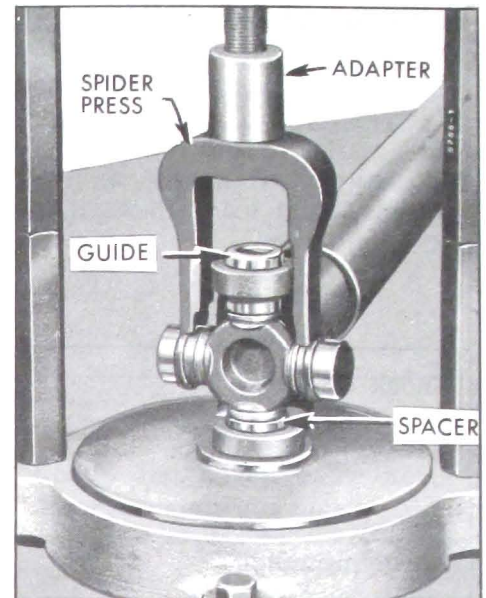

Figure 6-49—Removing Bearing With Guide and Spacer in Place
6. Install Spacer J-9522-6 adjacent to the bearing as in Step 4 and remove the bearing. See Figure 6-49.